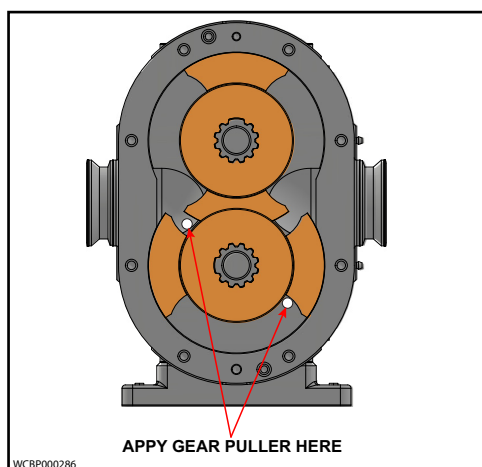

Figure 34 - Apply Gear Puller
- Orient the rotors perpendicular to each other and remove the rotor with both wings exposed first. Handle the rotors with care to avoid nicks and scratches. If the rotor is stuck tight, use a gear puller or hardwood lever behind the rotor hub to force it off the spline (Figure 34).
- Remove the two body retaining cap screws (10).